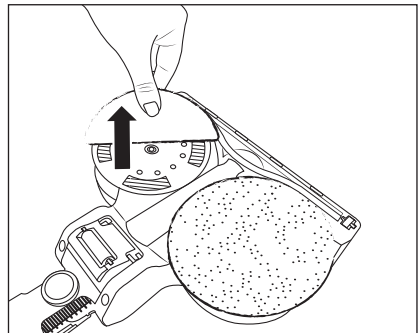

Fig. 18
- ◆ To remove a mop pad **34** from the mop attachment **31**, grip it with your fingers and pull it upwards off the mop attachment **31** (see Fig. 18).